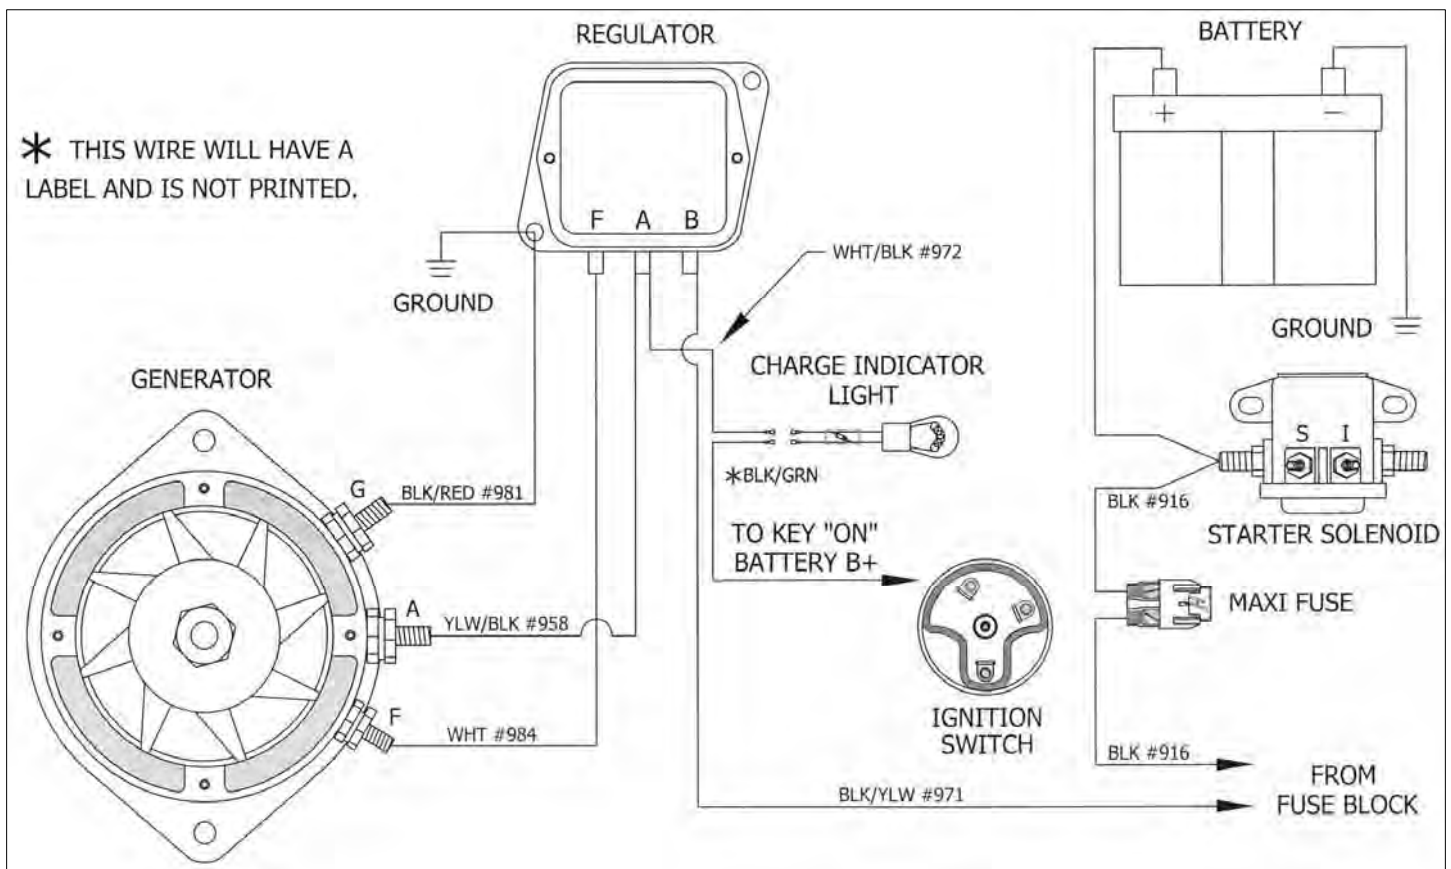

Figure 7-2 Generator Charging System
7.3 Generator Charging System. See Figure 7-2.
- 7.4.5** The Maxi Fuse connects to the battery side stud of the starter solenoid and the other side to the #916 wire from the fuse block. Also connect the red ammeter wire to the fuse block side of the Maxi Fuse. **See Figure 7-2.**